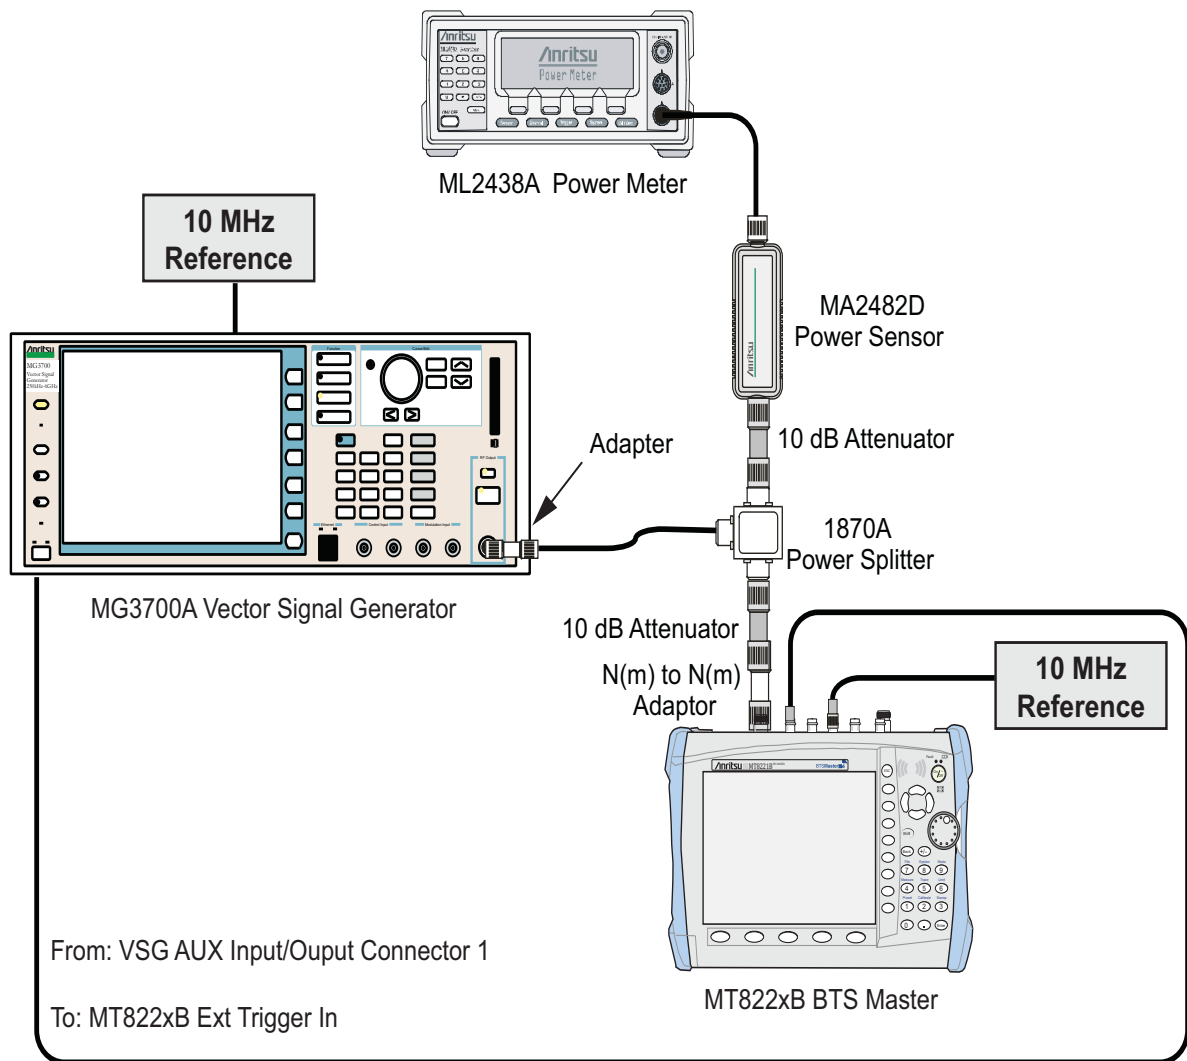

Figure 5-6. Fixed WiMAX Signal Analyzer Option Verification
3. Connect the Power Sensor, 1870A splitter, 10 dB attenuators (quantity 2), as shown in Figure 5-6.